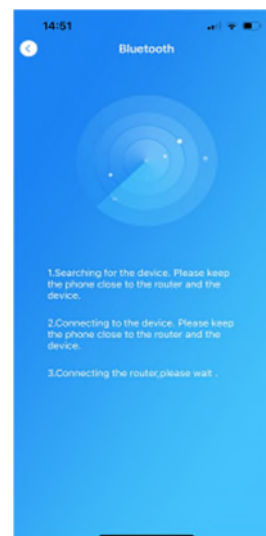

Fig.17
13. The Aqua Temp app will now automatically connect to the module via Bluetooth in order to share the WiFi network credentials [Fig.17]. It will then disconnect from Bluetooth and wait for the heat pump module to connect successfully connect to the Aqua Temp server via the WiFi network.